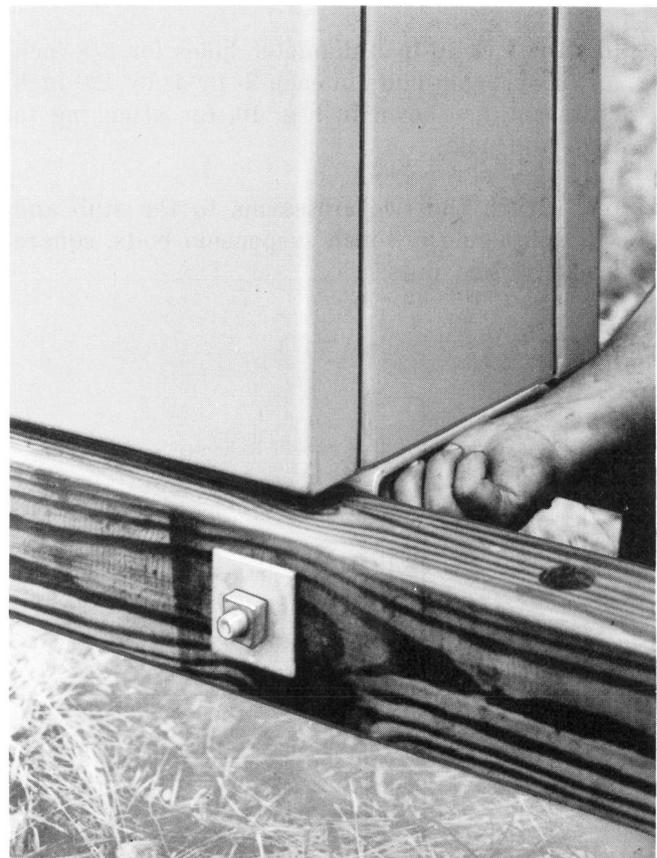

Fig. 12—Securing Cabinet to Bracket
3.29 Using four 1/2-13 by 1-inch bolts, secure the cabinet to the brackets as shown in Fig. 12. Tighten all bolts.